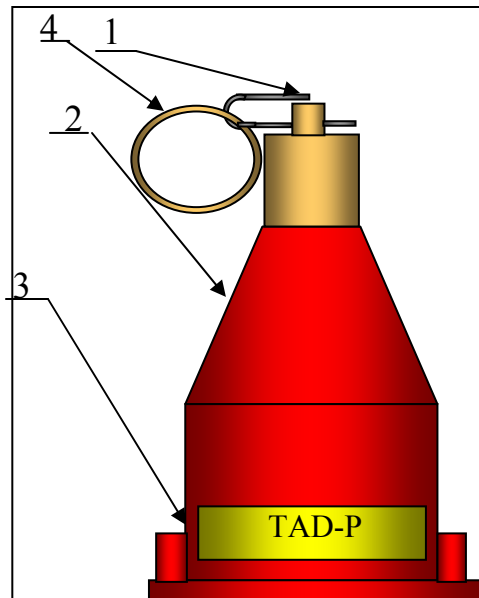

Figure 2. Schematic of TAD -P
When a heat-sensitive element (1) reaches its rated temperature a spring-loaded rod mounted inside a nosepiece is being released. The spring moves a cylindrical shape magnet, mounted on the rod, through an induction coil. The induction coil generates an electric impulse. The impulse is transmitted to the electrical terminals and further to the aerosol or powder fire extinguishers. **TAD-P** modification of the device is used for manual actuation of a fire suppression system. A schematic of **TAD-P** is shown in Figure 2. Its operation is as follows. In case of a fire a split pin is removed from the device by manually pulling a ring. This action releases a spring-loaded pin. Further sequence of events is similar to that for **TAD**.